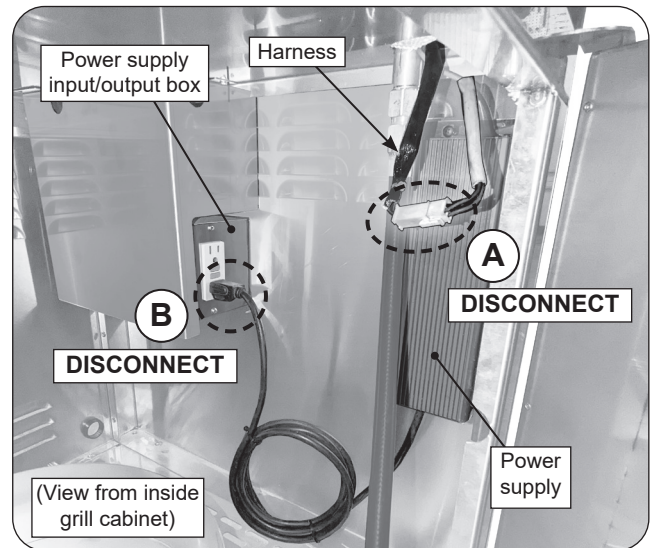

Fig. 44-1 Perform system reset
2. From inside the grill cabinet, locate the harness and disconnect it from the power supply (see Fig. 44-1, A).
3. Disconnect the power supply cord from the input/output box (see Fig. 44-1, B).